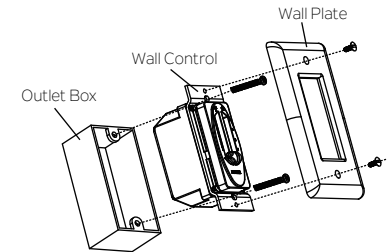

Fig. 23
**Step 2.** Use the screws provided to secure the wall control to the outlet box.(Fig. 23)